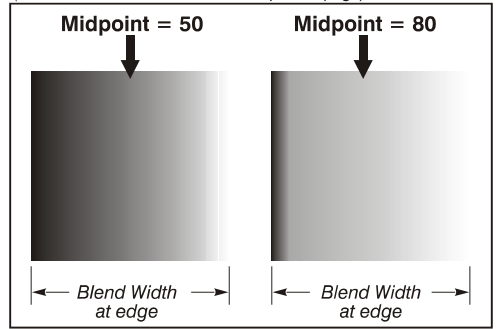

Figure 3.36. “Midpoint” Examples
- Blend Midpoint** determines the white level at the blend midpoint (the point equidistant between the beginning and end of the blend). Increasing the *Blend Midpoint* setting creates a blend that appears brighter than the rest of the image. Decreasing the *Blend Midpoint* setting creates a blend that is darker than the rest of the image. A setting of 50 means the midpoint is approximately 50% black—for best results in most applications, keep fairly close to this default (see **Figure 3.36**).